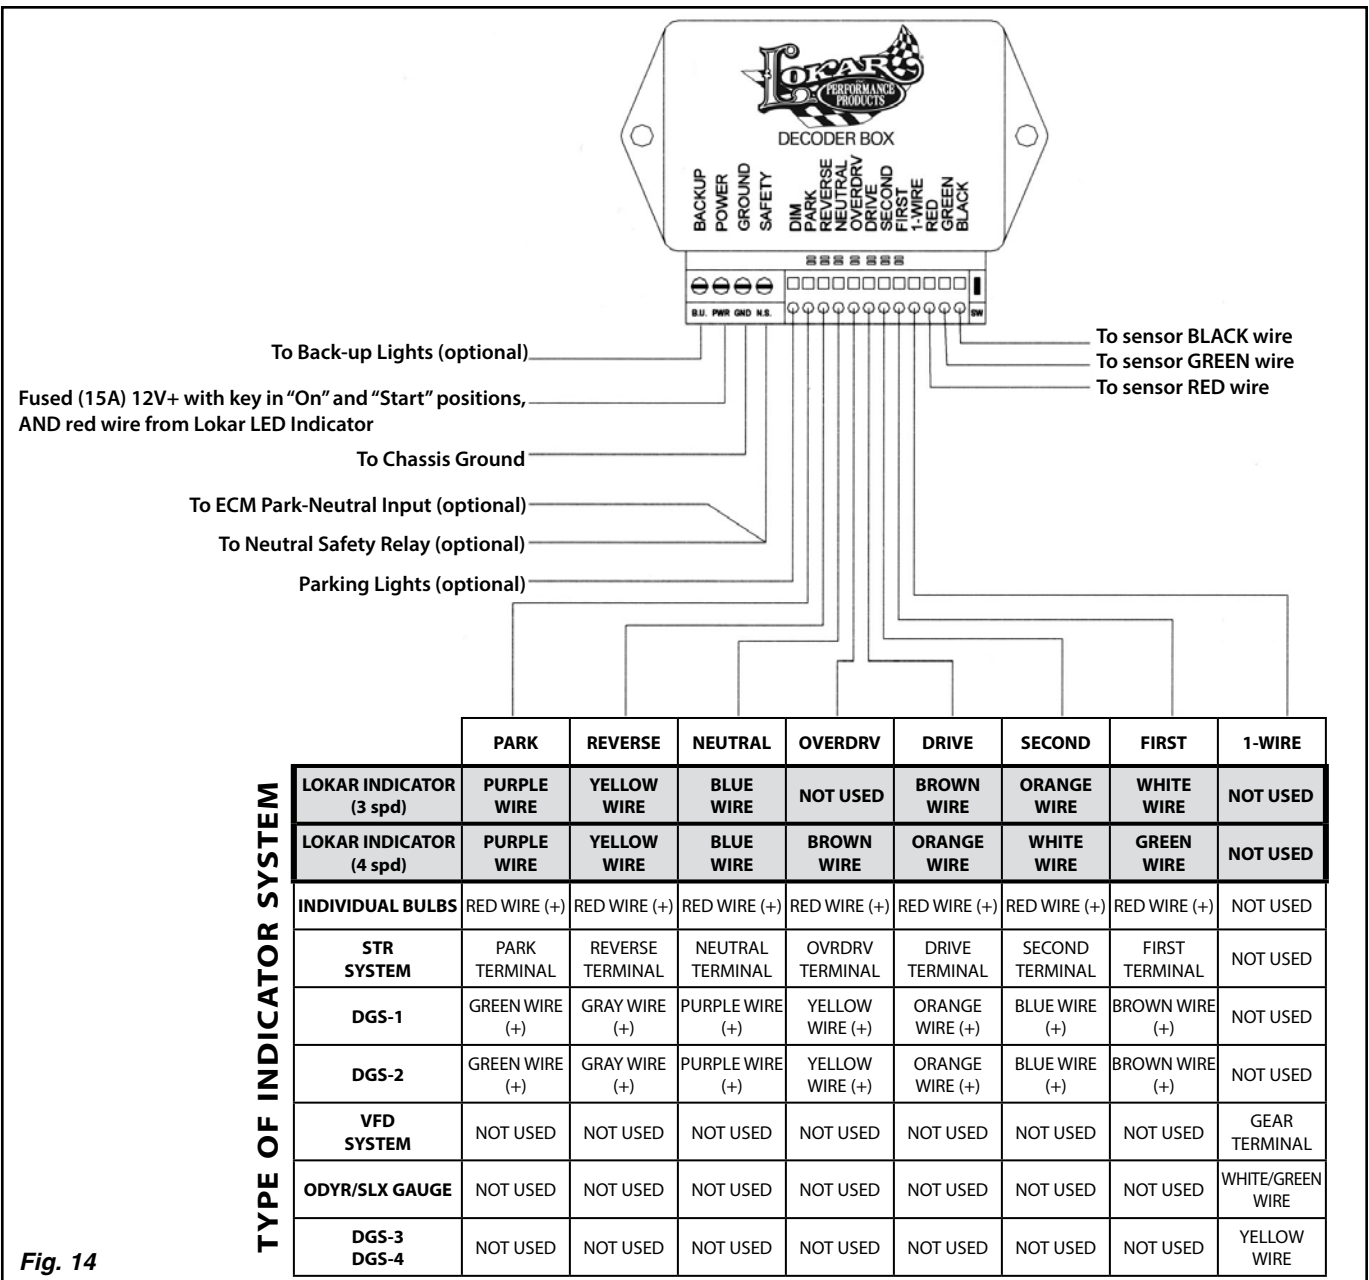

Fig. 14
Connect a solid chassis ground to the "GROUND" terminal on the decoder box. **Fig. 14**
Step 2: Press and hold the set switch. **Fig. 14** Turn the ignition key on while holding the set switch down. Then, release the set switch.